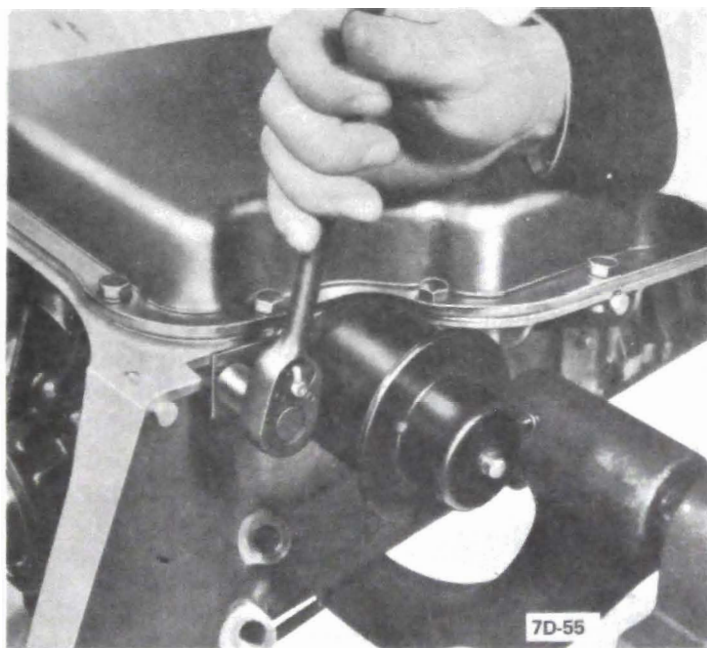

Figure 7D-16
4. Remove modulator assembly attaching bolt and retainer. See Figure 7D-16.